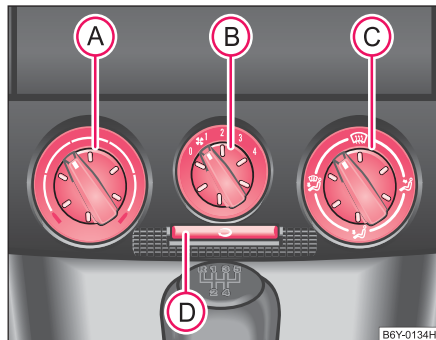

Fig. 78 Heating: Controls
- Turn the control dial **(A)** ⇒ **fig. 78** to the right in order to increase the temperature.
- Turn control dial **(A)** ⇒ page 87, fig. 78 to the right up to the stop
- Turn the control dial **(A)** ⇒ page 87, fig. 78 to the left up to the stop
- Press button , the button symbol  lights up ⇒ page 87, fig. 78.
Recirculated air mode is switched off automatically if the air distribution control **C** is in position  ⇒ page 87, fig. 78 ⇒ page 87, fig. 78.
Warmed or unwarmed air will flow out of the air outlet vents according to the setting of control dial **A** ⇒ page 87, fig. 78.